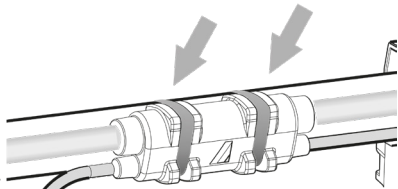

Fig. 17
**6** Connections between the main cables (3, 4 and 5). Respect the position of the connectors and do not force the insertion: the position is correct when the guides **A** (Fig. 17) fit into the counterpart seat.